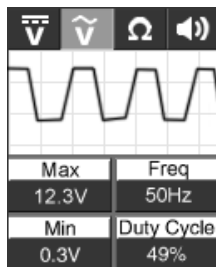

Figure 10
- Release vacuum and observe the LCD readings. (Figure 10)